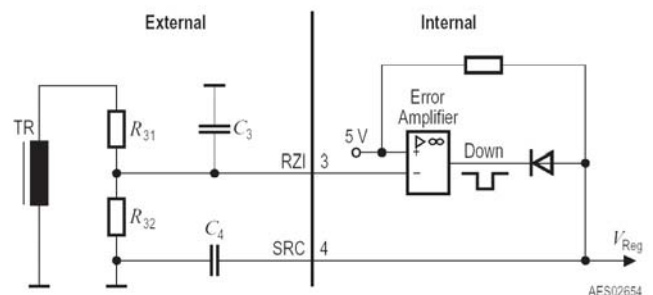
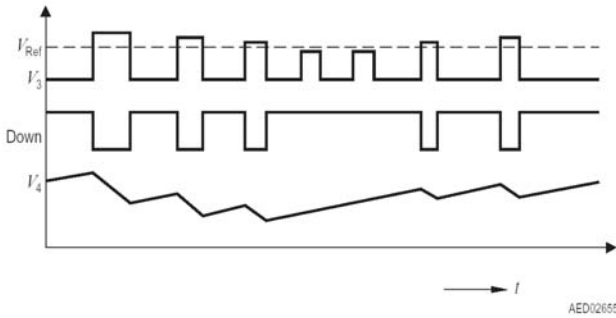

Figure 9-8 Error Amplifier
Figure 9-9 Regulation Pulse Diagram
Figure 9-8 shows the simplified Error Amplifier circuit. The positive input of the Error Amplifier (EA) is the reference voltage 5 V. The negative input is the pulsed output voltage from the auxiliary winding, divided by R31 and R32. The capacitor C3 is dimensioned only for delaying zero crossings and smoothing the first spike after switchoff. Smoothing of the regulation voltage is done with the soft start capacitor C4 at Pin 4. During start up C4 is charged with a current of approx. 2 mA (Soft Start). Figure9-9 shows the voltage diagrams of the Error Amplifier circuit.